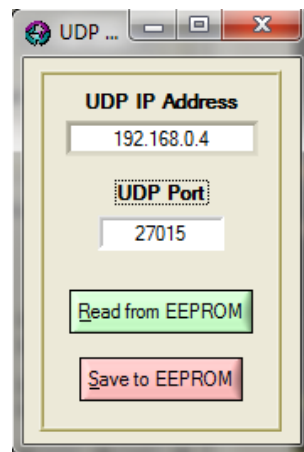

Figure 5.4: UDP configuration menu
- **Figure 5.4.** There, the user can read or define the IP Address and the Port number stored in the system's EEPROM.